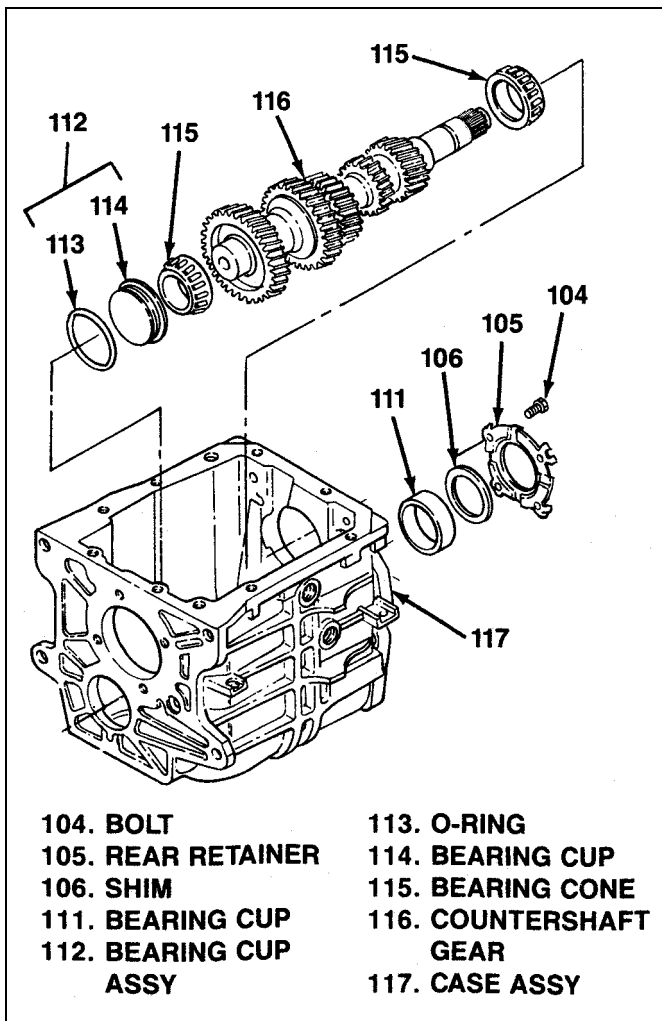
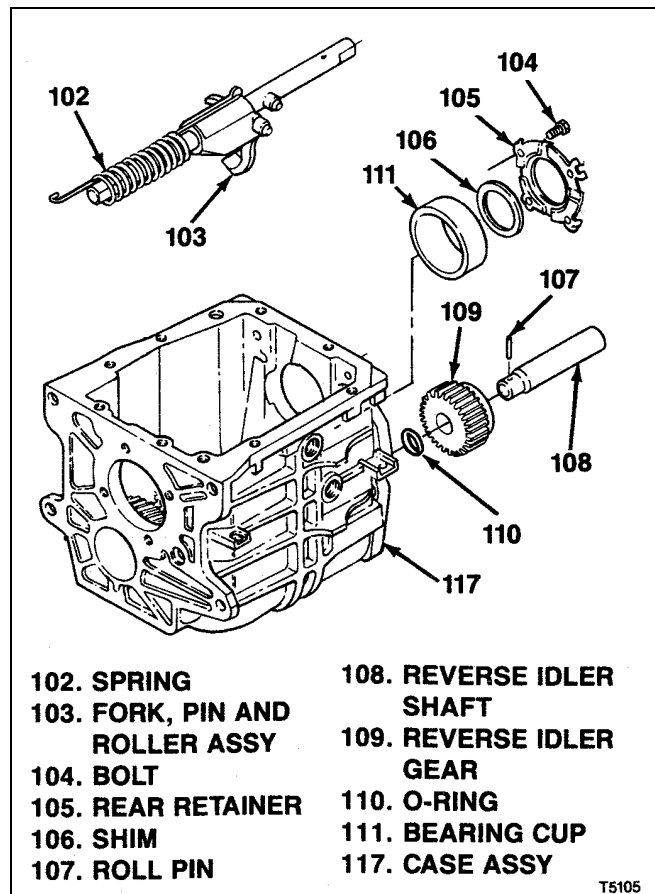
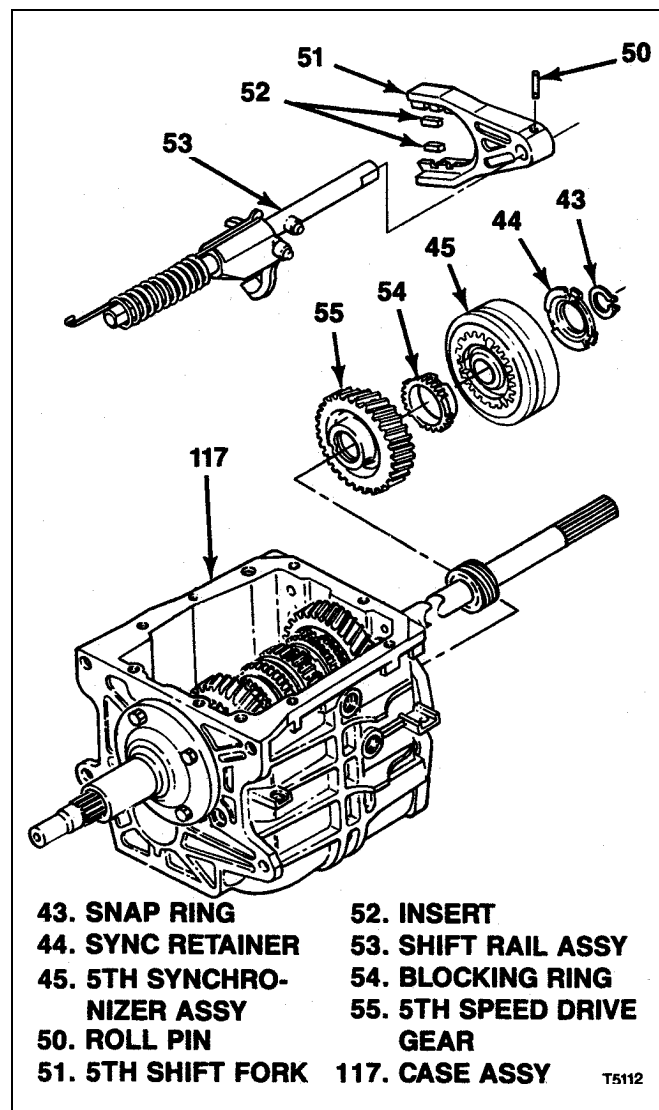

Figure 6-5. T5 WC Countershaft Gear
Figure 6-6. T5 WC Reverse Fork and Idler Gear
Figure 6-13. T5 WC 5th Synchronizer, Shift Fork and Gear
6-8. ASSEMBLY AND INSTALLATION OF T5 WC COUNTERSHAFT GEAR (see figure 6-5):
6-9. INSTALLATION OF T5 WC REVERSE FORK AND IDLER GEAR. With assembly completed as described through paragraph 6-8, proceed as follows (see figure 6-6):
6-15. INSTALLATION OF T5 WC 5TH GEAR, SHIFT FORK AND SYNCHRONIZER. At rear of transmission, install parts as follows (see figure 6-13):
- a. Install 5th speed drive gear (55) and blocking ring (54) on end of countershaft gear (116, figure 6-5).
- b. Attach 5th shift fork (51) to shift rail assembly (53) with roll pin (50). Install inserts (52) on 5th shift fork.
- c. Engage 5th shift fork (51) with previously assembled (paragraph 6-7) 5th synchronizer assembly (45) and install together in transmission noting the following:
2. Guide shift rail assembly (53) through reverse fork, pin and roller assembly and spring (103 and 102, figure 6-6) previously installed.
- a. Install 5th synchronizer retainer (44) and snap ring (43).
- a. Work 5-R shift lever (42) into engagement with rollers on previously installed shift rail assembly (53, figure 6-13) and fork, pin and roller assembly (103).
- b. From outside transmission install pivot pin (40) through case and 5-R shift lever (42). Torque pin to 20 1lb-ft (27Nm).
- c. Inside transmission, attach lever to pin with retaining ring (39).
- d. Install back-up switch (41).
- e. Using needle nose pliers, hook free end of previously installed spring (102, figure 6-6) on pin in transmission case (117).